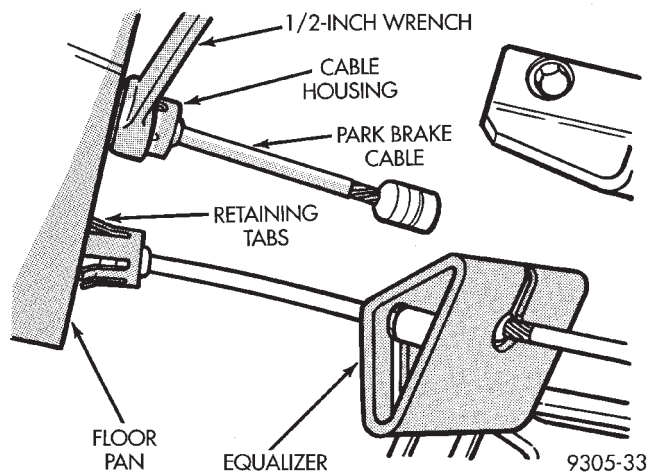

Fig. 132 Park Brake Cable Removal From FloorPan
(13) Remove rear park brake cable from vehicle floor pan using the following procedure. Disconnect rear park brake cable requiring replacement from equalizer (Fig. 132). Slip the box end of a 1/2 inch over end of park brake cable (Fig. 132). This will